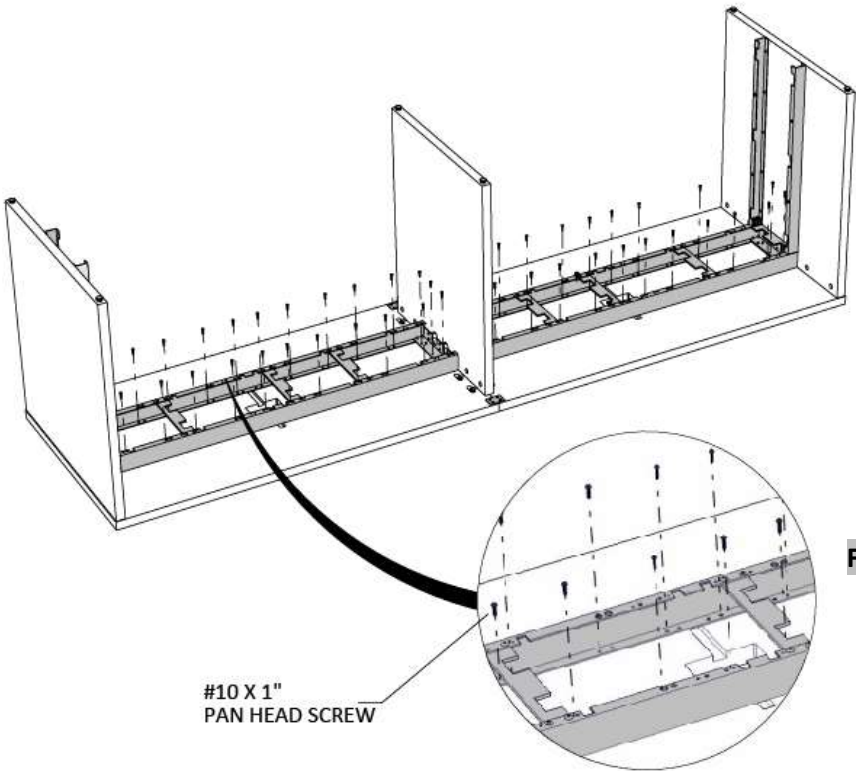

Figure 10
- 11. Securely fasten the bridges to surfaces, using #10 X 1" Pan Head Screws, (Figure 10).